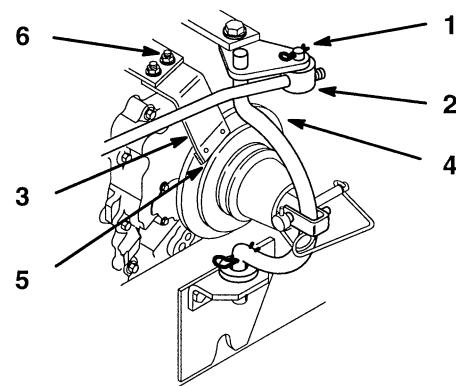

Figure 27
3. To adjust clutch, remove hairpin cotter and thread trunnion onto rod one turn at a time until there is moderate resistance as the clutch engages and clutch slippage is eliminated (Fig. 27).
4. To adjust brake, engage PTO clutch and loosen (2) adjustment nuts (Fig. 27).
5. Place a 0.012 (0.3 mm) feeler gauge between brake pad and clutch pulley. Holding brake pad against feeler gauge tighten adjusting nuts (Fig. 27).